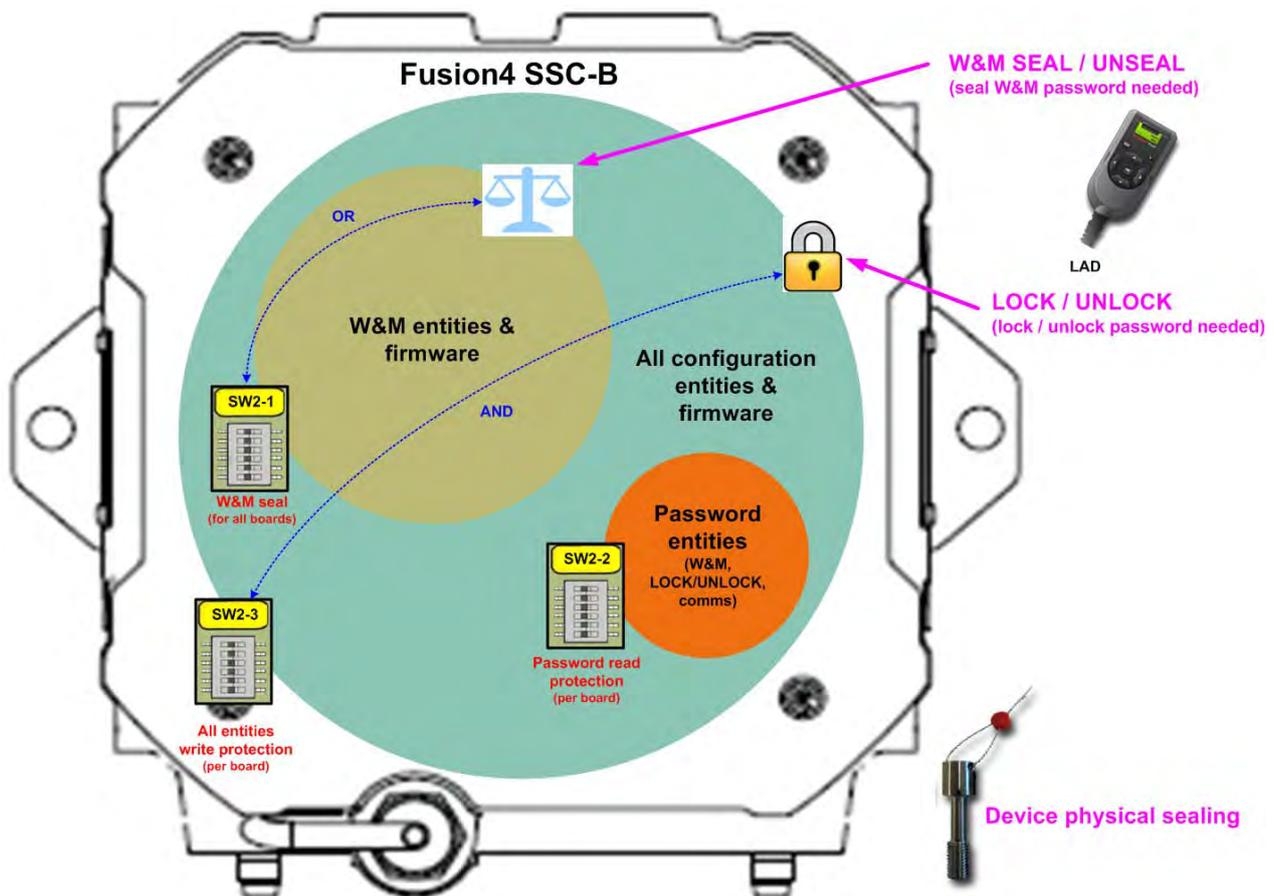

FIGURE 4-9 Possible sealing methods
4.9.1 W&M sealing can be done in 3 ways (see also FIGURE 4-9):